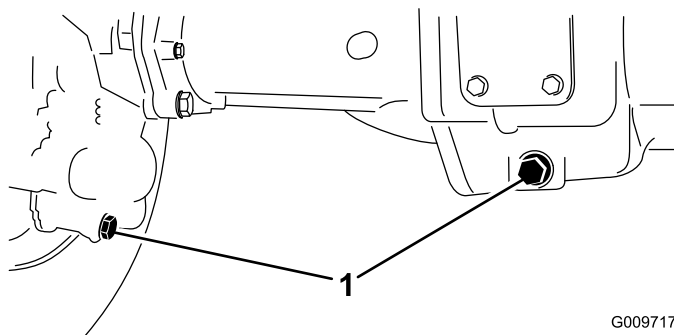

Figure 45
2. Clean the area around the 3 drain plugs—1 on each end and 1 in the center (Figure 45).